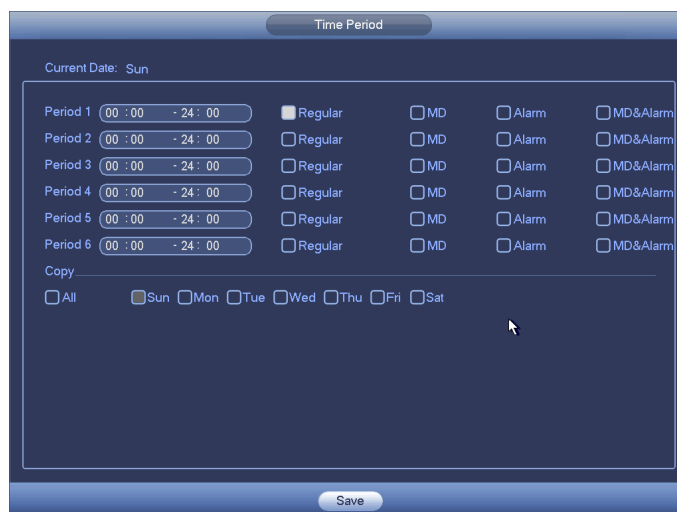

Figure 4-103
- Period setup: Click button  after one date or a holiday, you can see an interface shown as in Figure 4-103. There are four record types: regular, motion detection (MD), Alarm, MD & alarm.